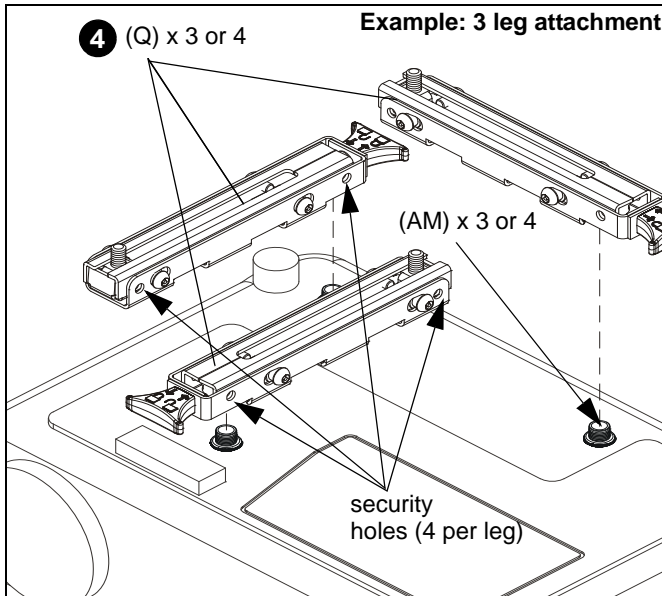

Figure 4
- Place interface legs (Q) over screw adapters (AM). (See Figure 4)
- If projector security is required, fasten one 10-24 x 3/8" security button head screw (AL1) through one of the four security holes in EACH leg using the 5/32" security hex key (AL2). (See Figure 4)